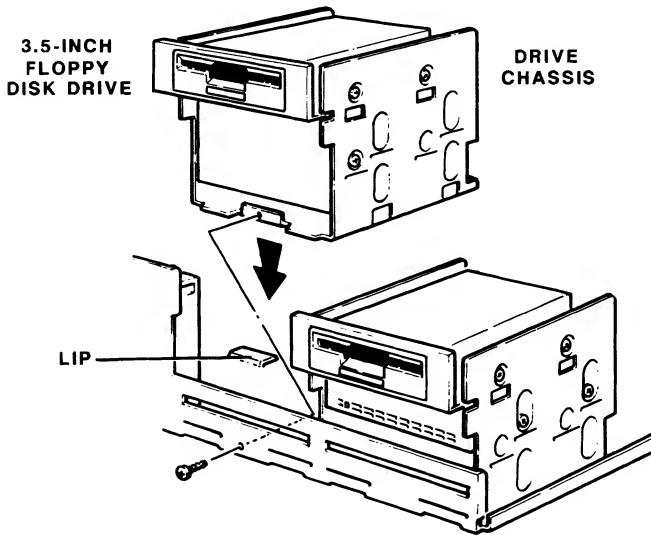

Figure 5-11. Reinstalling the Drive Chassis
- Reinstall the drive and drive chassis back in the computer. Slide the drive chassis in so that it catches the lip on the computer chassis. Line up the tabs on the bottom of the drive chassis with the corresponding slots on the front of the computer chassis. Refer to Figure 5-11.